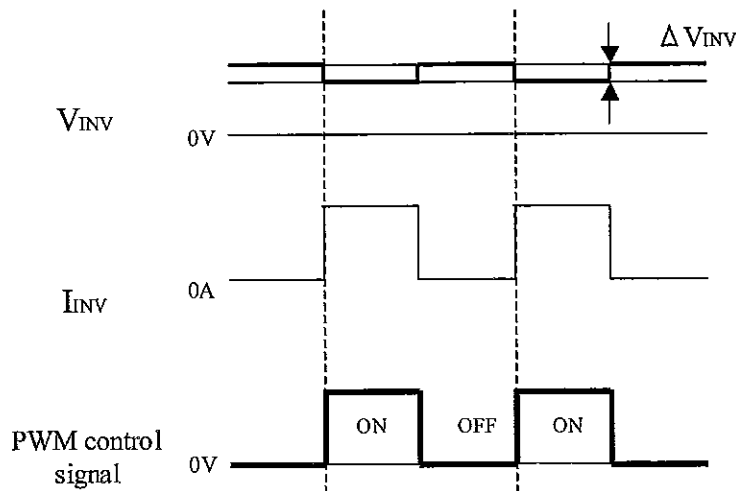

Fig.4 Brightness control voltage.
- c) Brightness control voltage is switched for "ON" and "OFF", as shown in Fig.4. Voltage difference generated by this switching, ΔV_{INV} , may affect a sound output, etc. when the power supply is shared between the inverter and its surrounding circuit. So, separate the power supply of the inverter circuit with the one of its surrounding circuit.